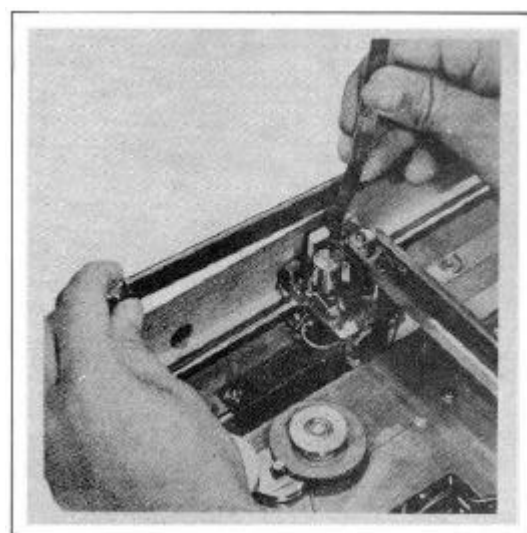

FIGURE 5-8. X-AXIS WIPER PROTECTION
- Move slidewire assembly upwards, being careful not to damage wiper. See Figure 5-8.